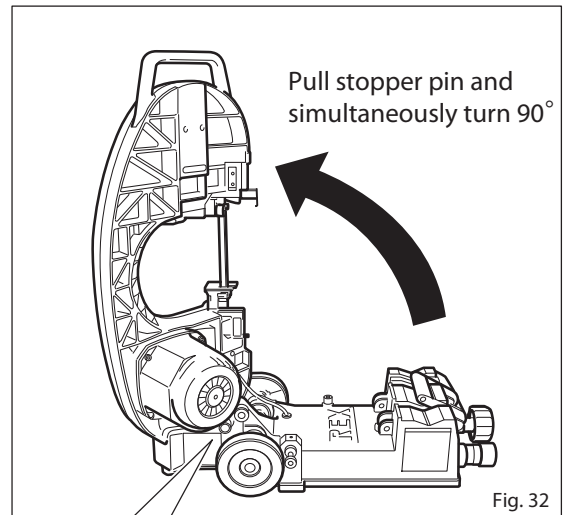
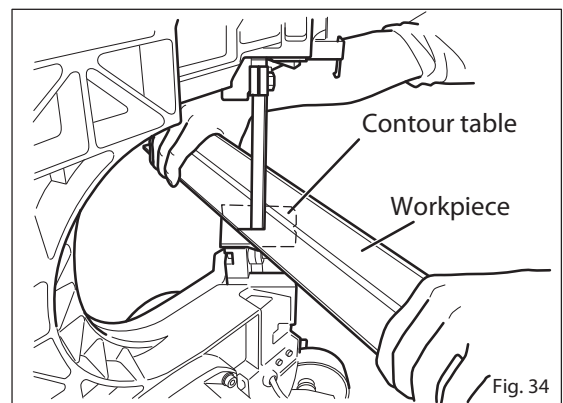

Fig. 32
Fig. 34
1. Contour Cutting (Figs. 32 - 34)
- (1) Pull the stopper pin ring to the left of the motor, while simultaneously grasping the handle and lifting the frame so it is vertical. (Figs. 32 & 33)
- (2) Set the ON/OFF switch to the "ON" position. The blade will start rotating.
- (3) Place the workpiece on a contour table and cut it slowly. (Fig. 34)